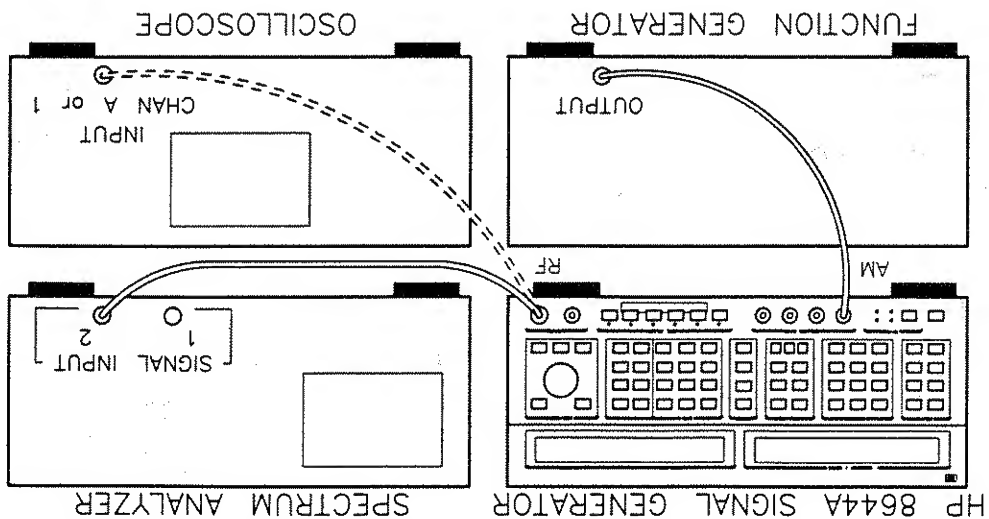

Figure 2-6. Equipment Setup for AM Procedure #2.
1. Connect the HP 8644A to the Spectrum Analyzer (or Oscilloscope) and Function Generator as shown in figure 2-6. Turn on the equipment and make the following adjustments: